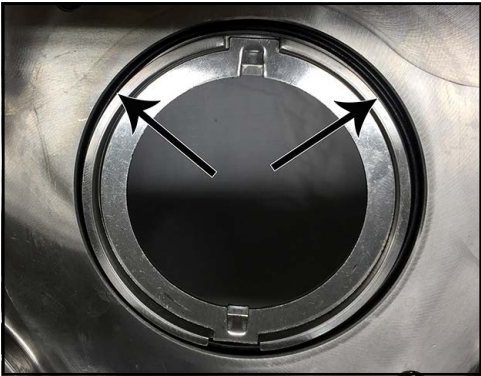

Figure 164 - Seal housing O-ring installed
7. Install the seal housing O-ring. The O-ring fits in the body, around the shaft ring. See Figure 164.
8. Figure 164 shows the seal housing O-ring installed.